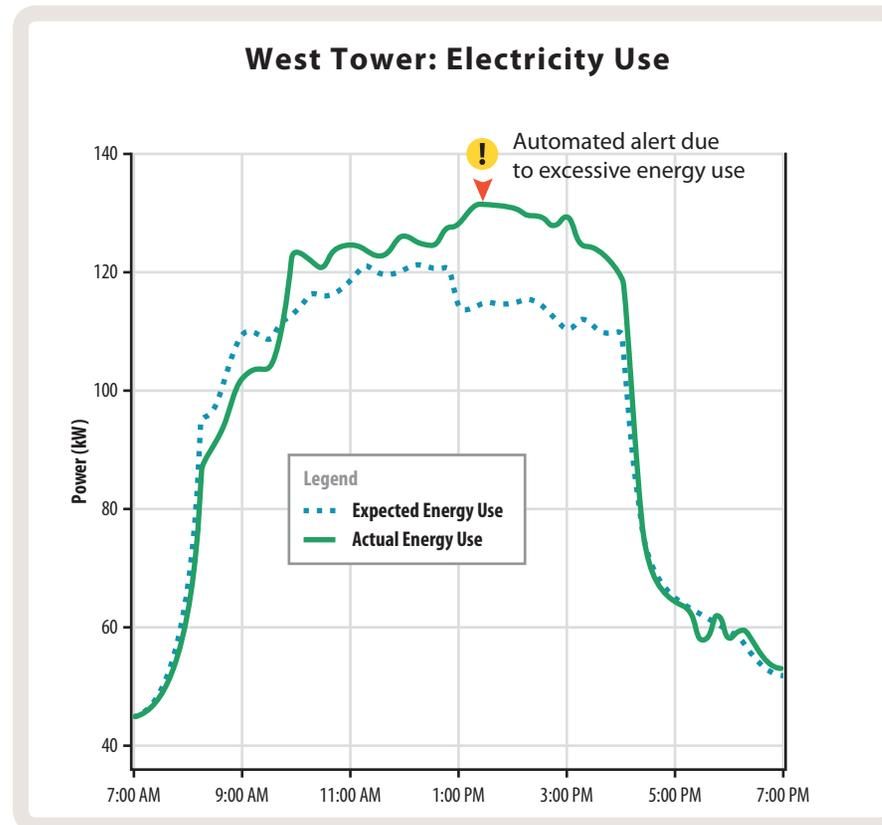

Figure 10: Example of predictive model display adapted from Pulse Energy screenshot
- **Expected Energy Use:** These models use recent energy use (generally the last 6-12 months) and current operating conditions (weather, occupancy, etc.) to develop an ongoing prediction of expected energy use. Expected energy use is then compared to actual energy use to flag instances when use is unexpectedly low or high. Figure 10 shows how an advanced EIS might indicate variations in actual energy use from expected energy use.